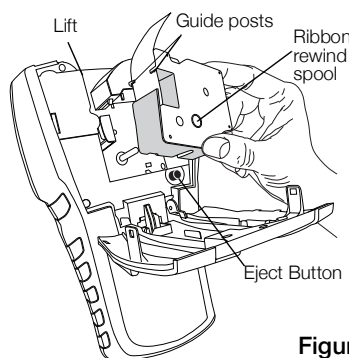

Figure 4
- 2 Press the cartridge eject button. See Figure 4. The label cartridge is lifted from the printer.